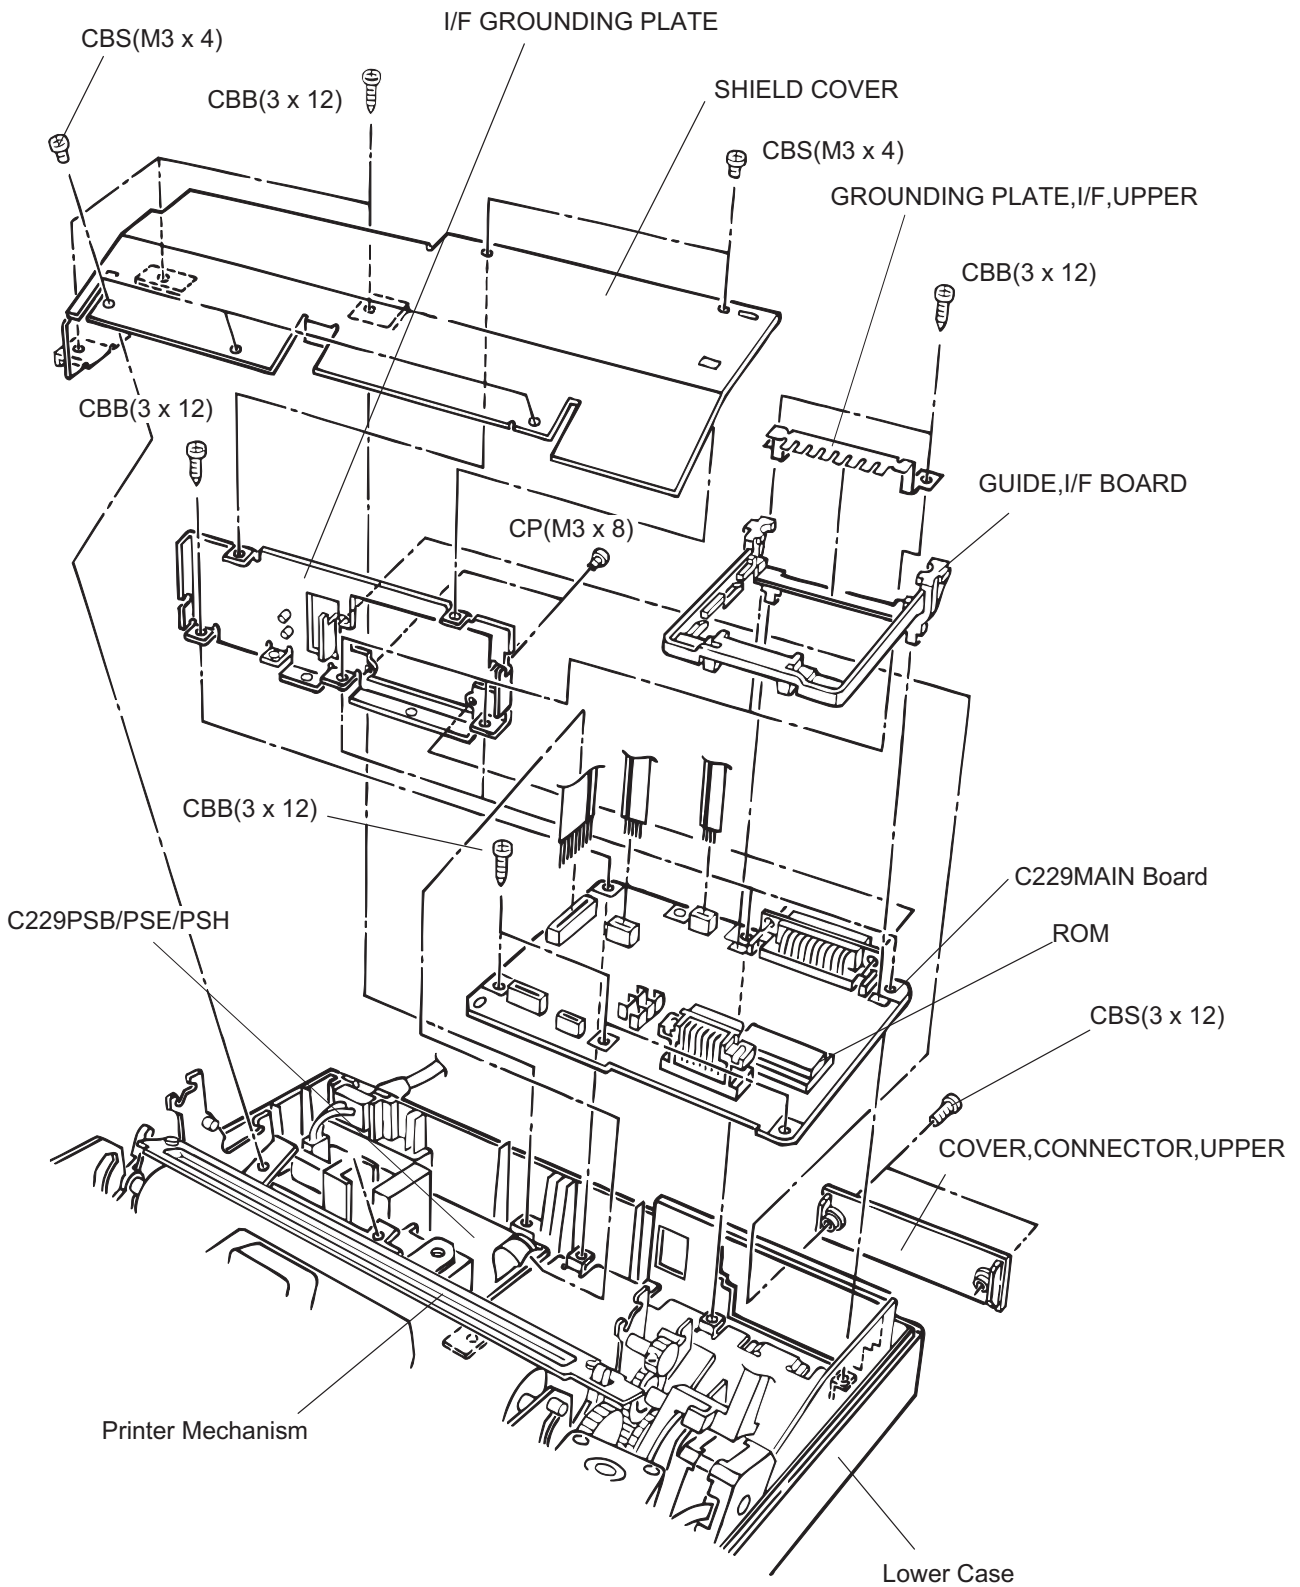

Figure 4-6. C229MAIN Board Removal
3. Remove 5 CBS (M3 × 4) screws and 3 CBB (3 × 12) screws securing the shield cover to the printer mechanism and lower housing. Then remove the shield cover. (See Figure 4-6. )